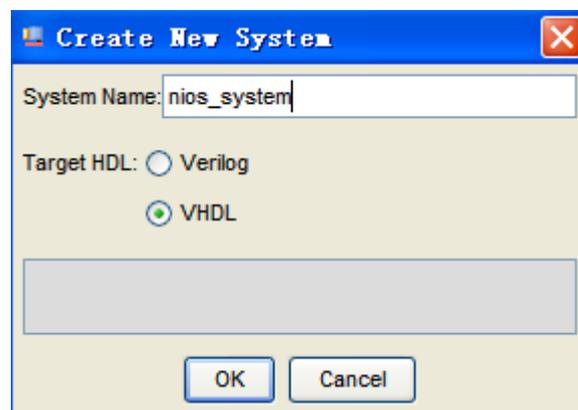
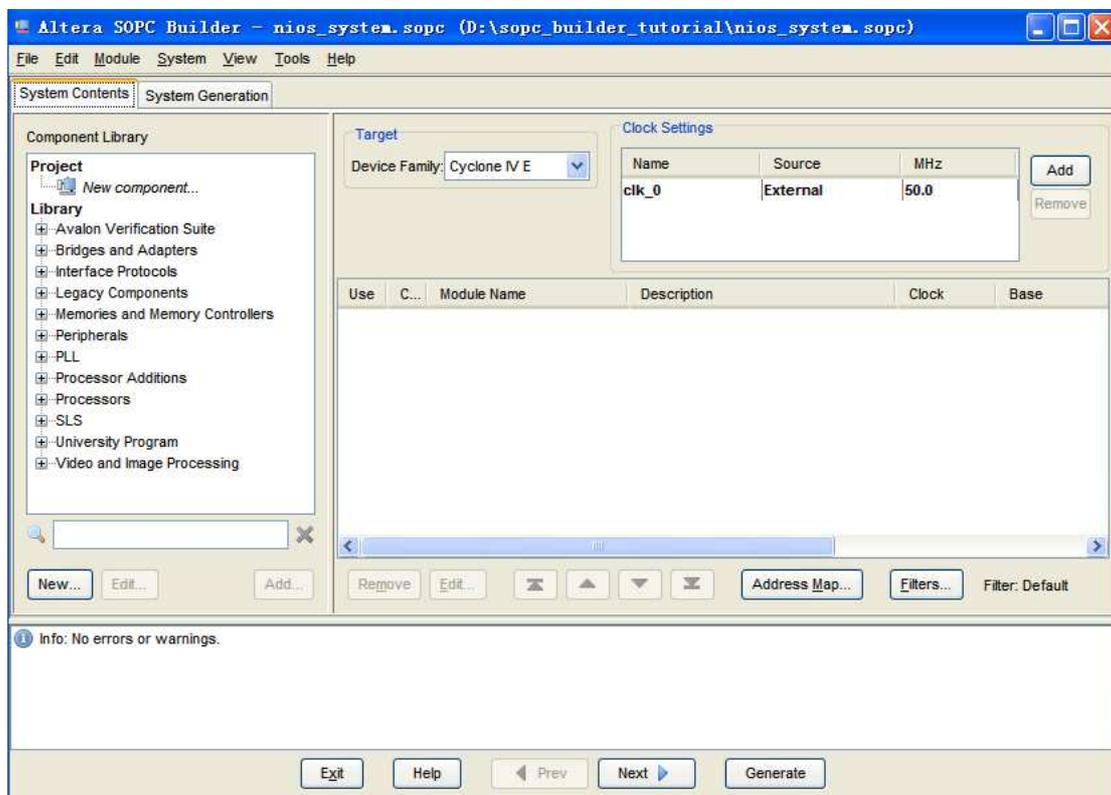
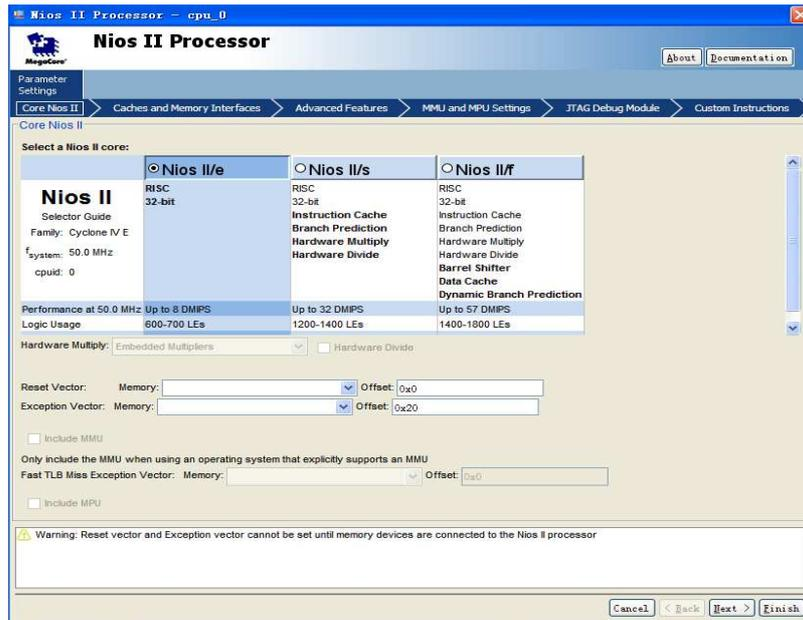
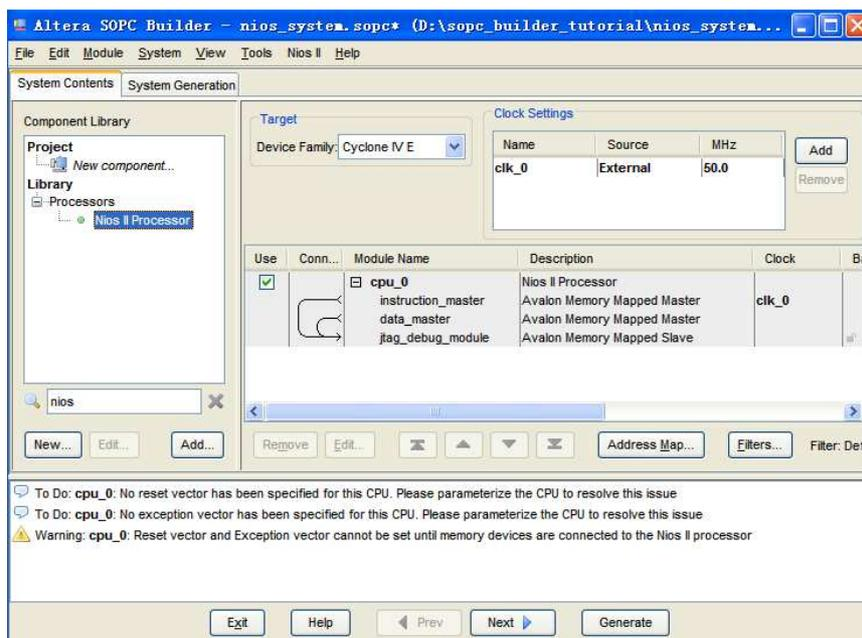

Figure 4. Create a new Nios II system.
Figure 5. The System Contents tab window.
Figure 6. Create a Nios II processor.
Figure 7. The defined processor.
2. Select **Tools > SOPC Builder**, which leads to the pop-up box in Figure 4. Enter `nios_system` as the system name; this will be the name of the system that the SOPC Builder will generate. Choose VHDL as the target HDL, in which the system module will be specified. Click **OK** to reach the window in Figure 5.
3. Figure 5 displays the System Contents tab of the SOPC Builder, which is used to add components to the system and configure the selected components to meet the design requirements. The available components are listed on the left side of the window. Before choosing our components, examine the area in the figure labeled Target. A drop-down list is provided that allows some available Altera boards to be selected. It is not necessary to select a board, and since the DE2-115 board is not included in the list leave the selection as Unspecified board. Next, check the setting for the Device Family and ensure that Cyclone IV is selected.
4. The Nios II processor runs under the control of a clock. For this tutorial we will make use of the 50-MHz clock that is provided on the DE2-115 board. As shown in Figure 5, it is possible to specify the names and frequency of clock signals in the SOPC Builder display. If not already included in this list, specify a clock named clk with the source designated as External and the frequency set to 50.0 MHz.
- On the left side of the window in Figure 5 select **Avalon Components > Nios II Processor – Altera Corporation** and click **Add**, which leads to the window in Figure 6.
- Choose **Nios II/e** which is the simplest version of the processor. Click **Finish** to return to the window in Figure 5, which now shows the Nios II processor specified as indicated in Figure 7. There may be some warnings or error messages displayed in the SOPC Builder Messages window (at the bottom of the screen), because some parameters have not yet been specified. Ignore these messages as we will provide the necessary data later. Observe also that a new tab called Nios II More “cpu_0” Settings appears which allows further configuration of the processor - we will not use it.